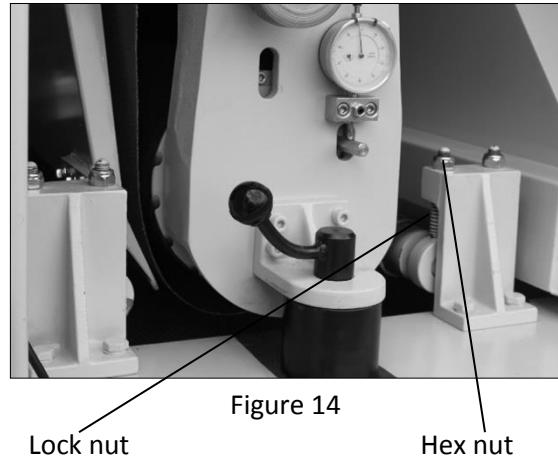

Figure 14
6. If adjustment is needed, release the lock nut ( Figure 14 ) with a 14mm wrench.
7. With another 14 mm wrench ( Figure 14 ) adjust other hex nut . Rotate the hex nut clockwise to raise that side of the pressure bar, counterclockwise to lower it
8. When finished, re-tighten lock nut ( Figure 14 ).